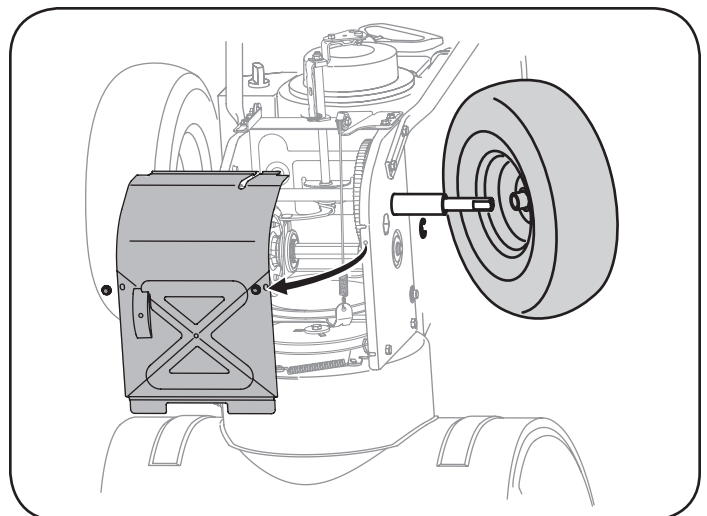

Figure 28
5. Remove the right-hand wheel by removing the screw and bell washer which secure it to the axle. See Figure 28.